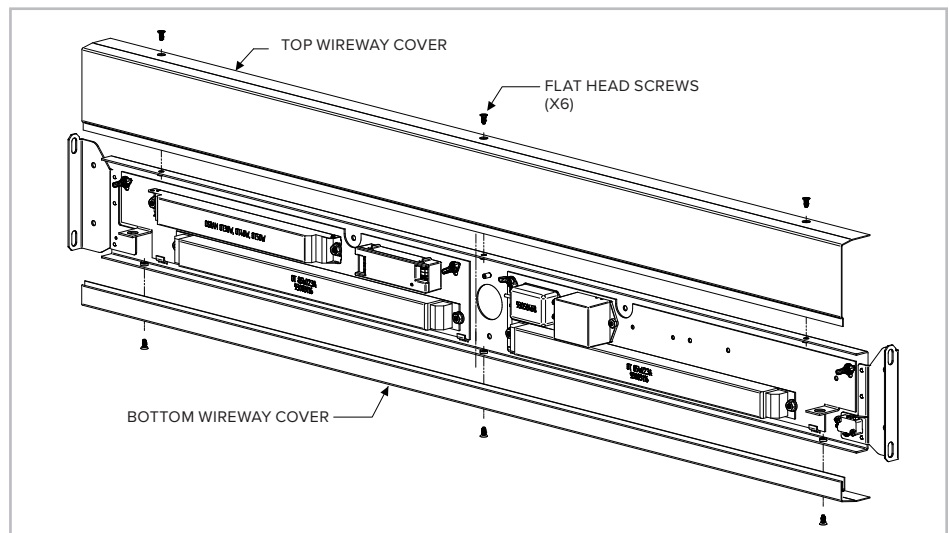

Figure 1: The wireway covers are disassembled by removing (6) flat head screws.
1. Remove the backplate from the packaging. Remove the 6 flat head screws and the two piece wireway covers. If desired, remove the 4 wing nuts and the gear plates to reduce the weight of the backplate for installation. *Figures 1 and 2* detail the wireway and gear plate removal.